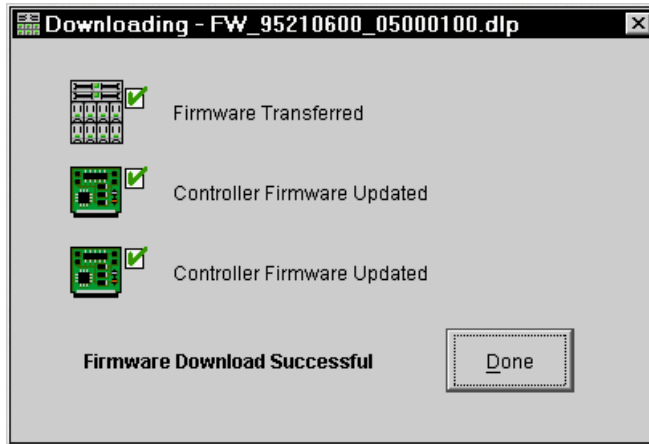

Figure 4-17 Download of firmware completed
3. The firmware upgrade continues. You can follow the process as shown in the Downloading window (Figure 4-17). The entire download process can take several minutes to finish.